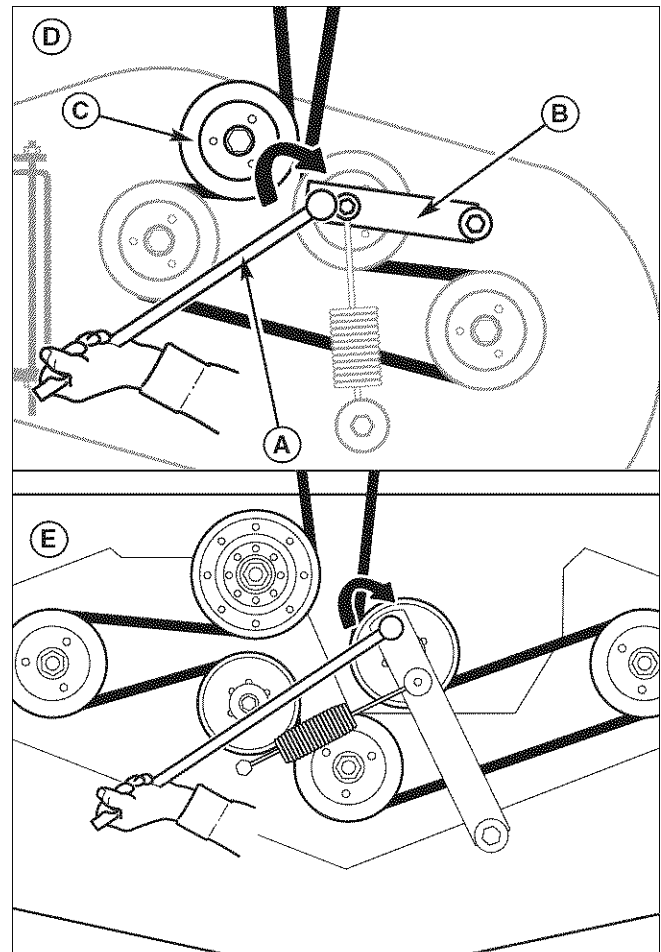

Figure 34. Remove the Mower Belt
3. Using a 1/2" breaker bar (A, Figure 34), place the square end in the square hole located on the end of the idler arm (B). Carefully rotate the breaker bar **CLOCKWISE**, which will relieve the tension on the belt exerted from the idler arm.
6. Install the mower drive belt on the PTO pulley, the spindle pulleys and all idler pulleys except the stationary idler pulley (C, Figure 34). Carefully rotate the breaker bar counter-clockwise and install the belt on the stationary idler pulley. Carefully release the tension on the breaker bar.